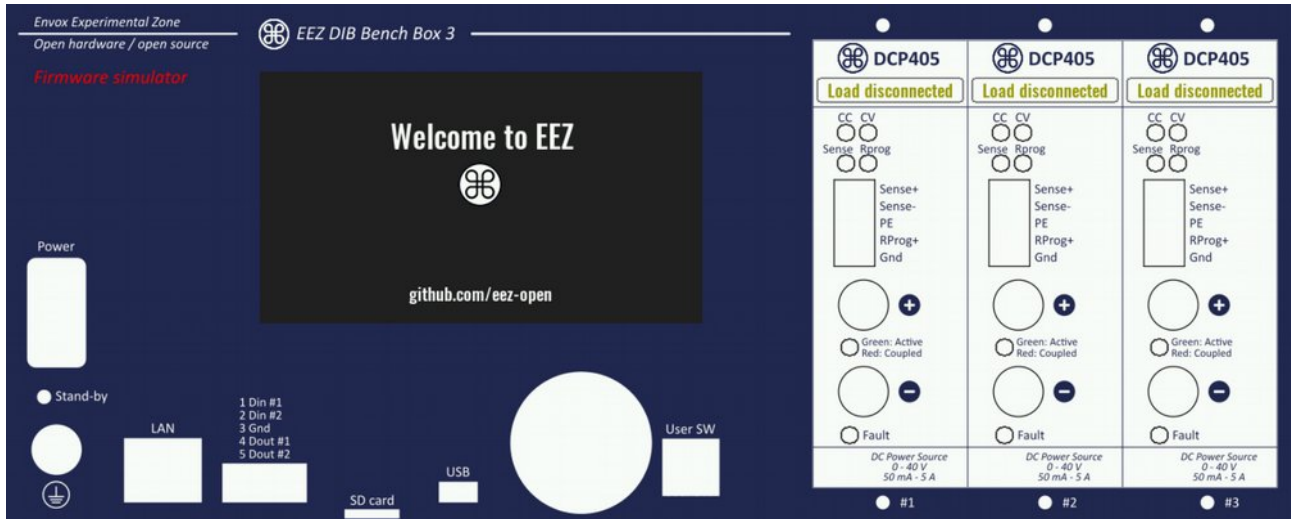

Fig. 6: Firmware simulator GUI
**Description** This command starts the GUI simulation in a new window (see Fig. 6 and Fig. Error: Reference source not found).